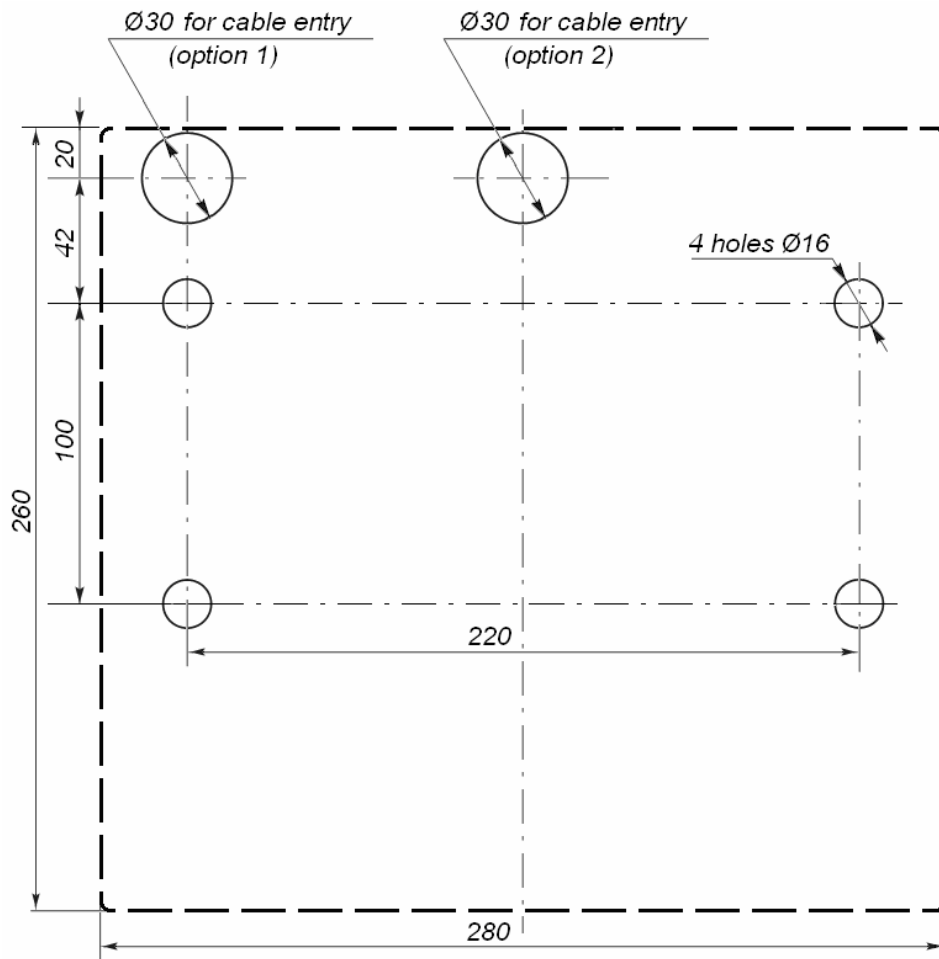

Figure 10. Floor anchor position and cable entries for housing installation (turnstile housing is dotted)
- to mark the mounting holes according to Fig. 10;
2. Make the holes for anchor bolt (13) sleeves for the turnstile housing installation (Fig. 10). If you lay out cables under the floor surface, make an electric raceway to the cables laying zone of the turnstile housing (option 1 or 2 in Fig. 10)